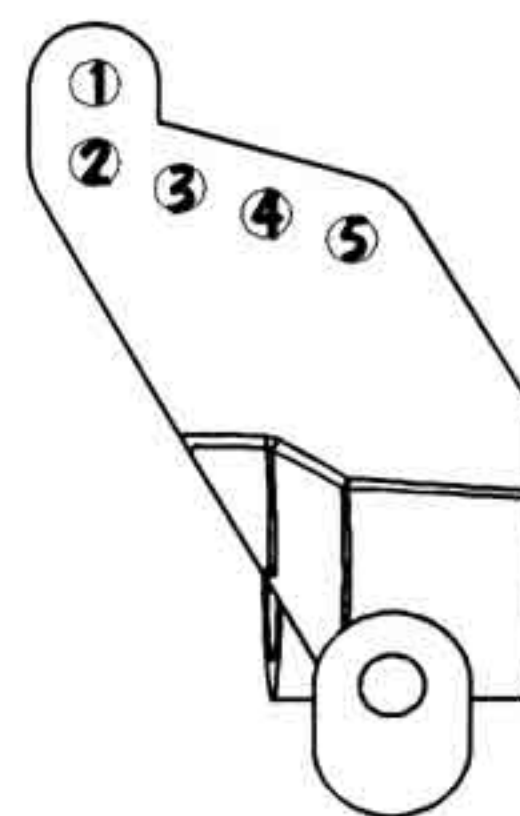

Figure 27A
Step 11. Press a 3/16" x 3/8" bearing (61) into each side of the right rear hub (63).
Step 12. Thread a 3/8" ball stud (8) into the #4 hole in the rear hub (63), from the front (the side with the recessed area). See figure 27A